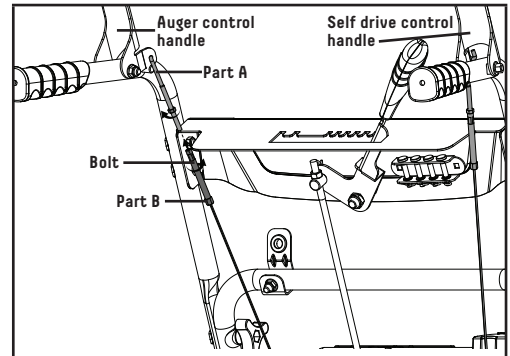

Figure 5
1. The auger control wire includes part A and part B (Fig. 5).
2. Lift the auger control handle to the upper position (Fig. 5).
3. Hook part A into the auger control handle (Fig. 5).
4. Connect part A and part B of the auger control wire to get a natural tension station for the wire. (Fig. 5)
In the process of operation, if the auger or drive control handle is too loose, screw the bolt (Fig. 5) of part A to get a natural tension station for the wire.